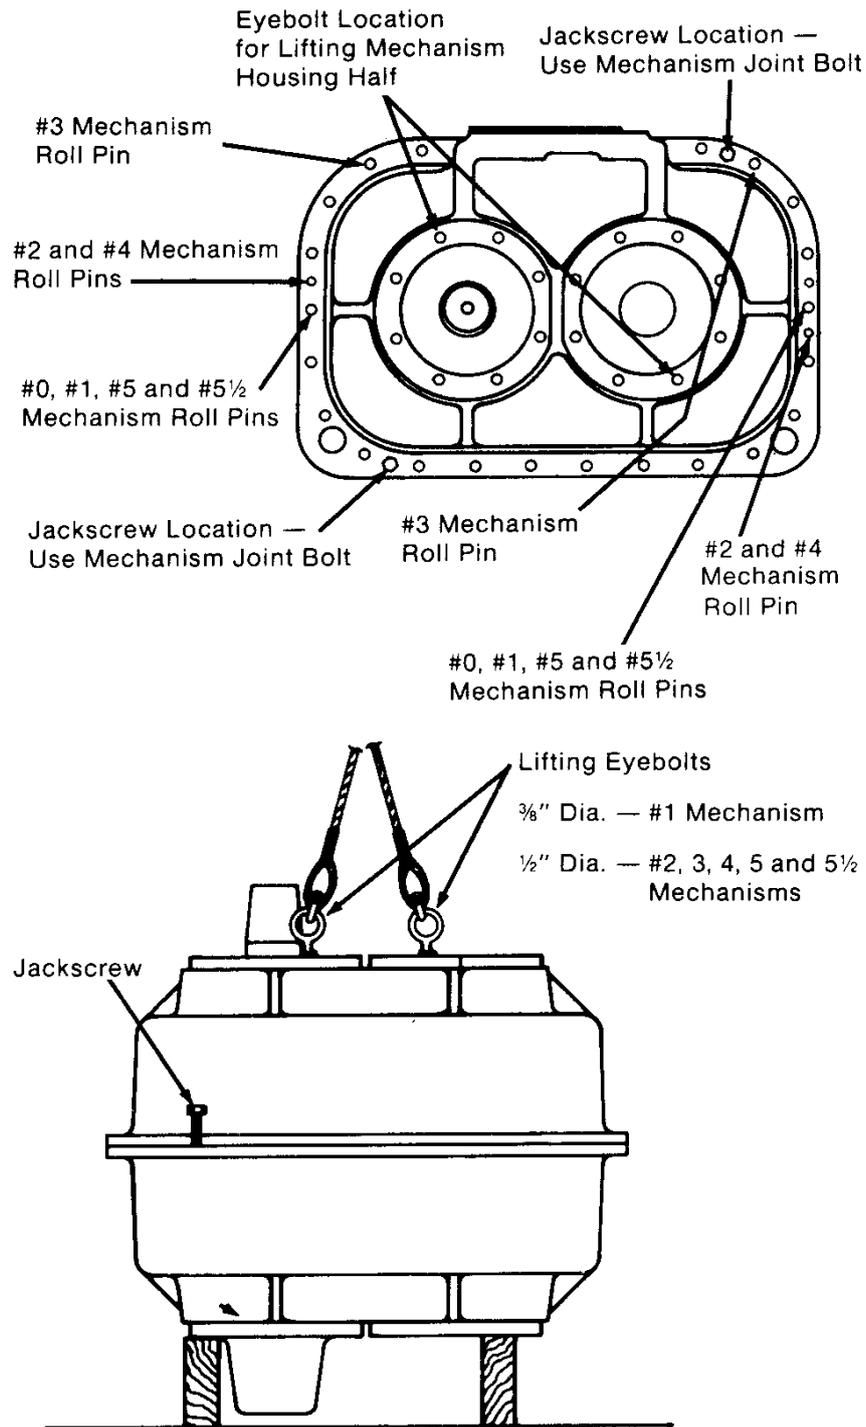

Figure 4.2 Method of dismantling housing halves (lower)
5. Place the mechanism on its side, on wooden supports, with the mechanism sheave side up (Figure 4.2). Remove the mechanism sheave and the bearing cap on the drive shaft (3175-0). At this point, check the accessible end of the driven shaft and determine if it has a tapped hole that can be used for lifting purposes. If the hole is not on the accessible end of the shaft, replace the bearing cap and turn the mechanism over. This should make the tapped end of the shaft accessible for later use in lifting the shaft. The driven shaft is tapped on one end only, except for No.1 mechanism, while the drive shaft is tapped on both ends.
6. Remove the bolts (3010-0) holding the housing halves together. Roll pins for specific mechanism sizes are located on Figure 4.2. Remove both roll pins (3012-0). The roll pins serve as dowels to accurately locate the housing joint and maintain the correct bearing and shaft alignment.
7. Two tapped holes are located in opposite corners of the housings, at the joint, for mounting jacking screws (See Figure 4.2 for location). To part the housing halves, take two of the joint bolts previously removed in Step 5 and insert them in the two tapped holes for use as jacking bolts. Work both screws, on opposite corners of the housing, at the same time to prevent binding. Remove and discard the housing gasket (3022-0).
8. Insert two eye-bolts (See Figure 4.2 for eyebolt diameter) in the two tapped holes designated for this purpose. Secure a safety hitch through each eye-bolt and raise the upper housing half with a lifting device.